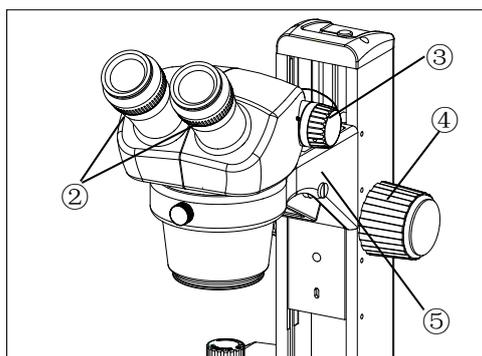

Fig.8
3.1.2 Adjusting diopter ring (Fig.8)